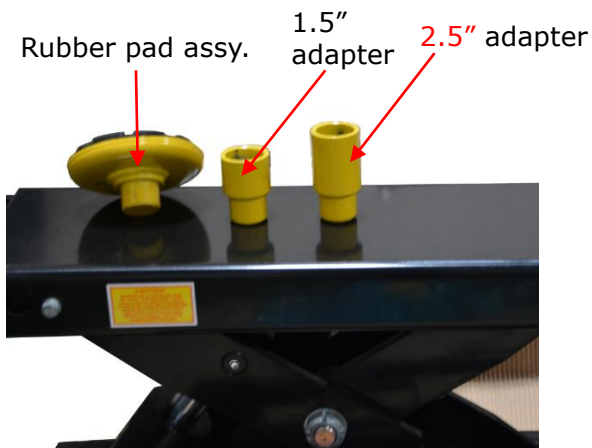

Fig.3
2. Lift vehicles: choose the suitable adapters(Fig. 3); Extend the upper extension to proper length to fit the lifting point of the vehicle(Fig. 4); shake the handle up/down (Fig.5); Raise the Jack and lock the Jack in the safety lock(Fig. 6)